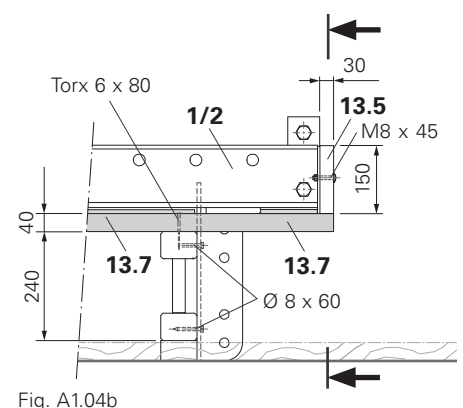

Fig. A1.04b
1. Position Crossbeams (1/2) on support timbers (13.8) and align. (Fig. A1.04b)
2. Place GT 24 (13.1) in the Crossbeam support (1/2) and align components at right angles to each other. (Fig. A1.04b)